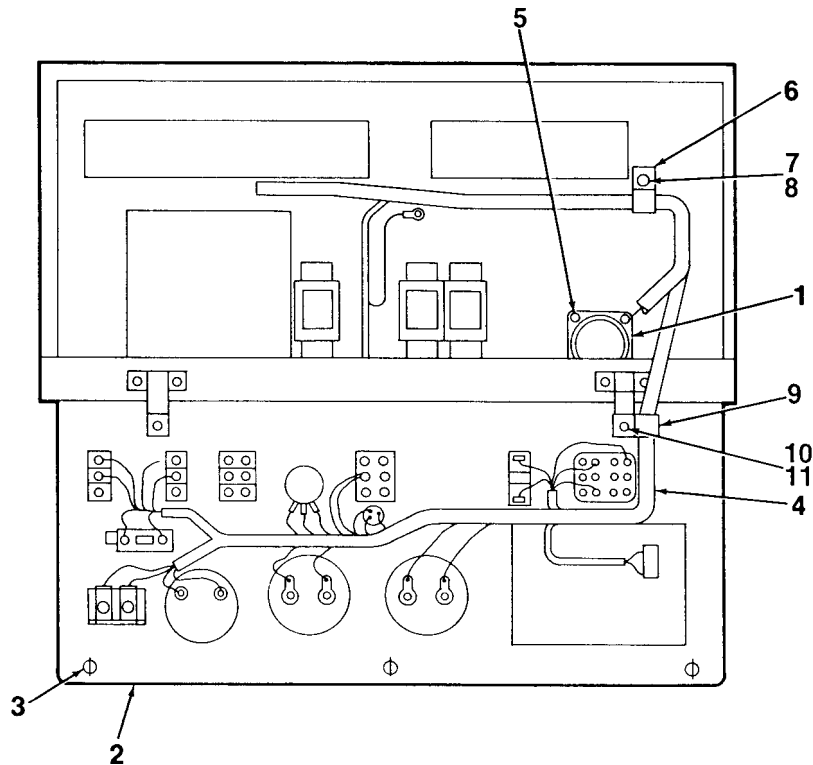

Figure 4-18. Control Box Wiring Harness
2. Disconnect generator set wiring harness plug P7 from control box harness connector J7 (1, Figure 4-18), located on rear of control box assembly.
3. Unlock and open control panel (2) by turning quarter-turn fasteners (3).
1. Mate control box harness connector J7 (1, Figure 4-18) to inside wall of control box. Secure using four screws with captive washers (5).